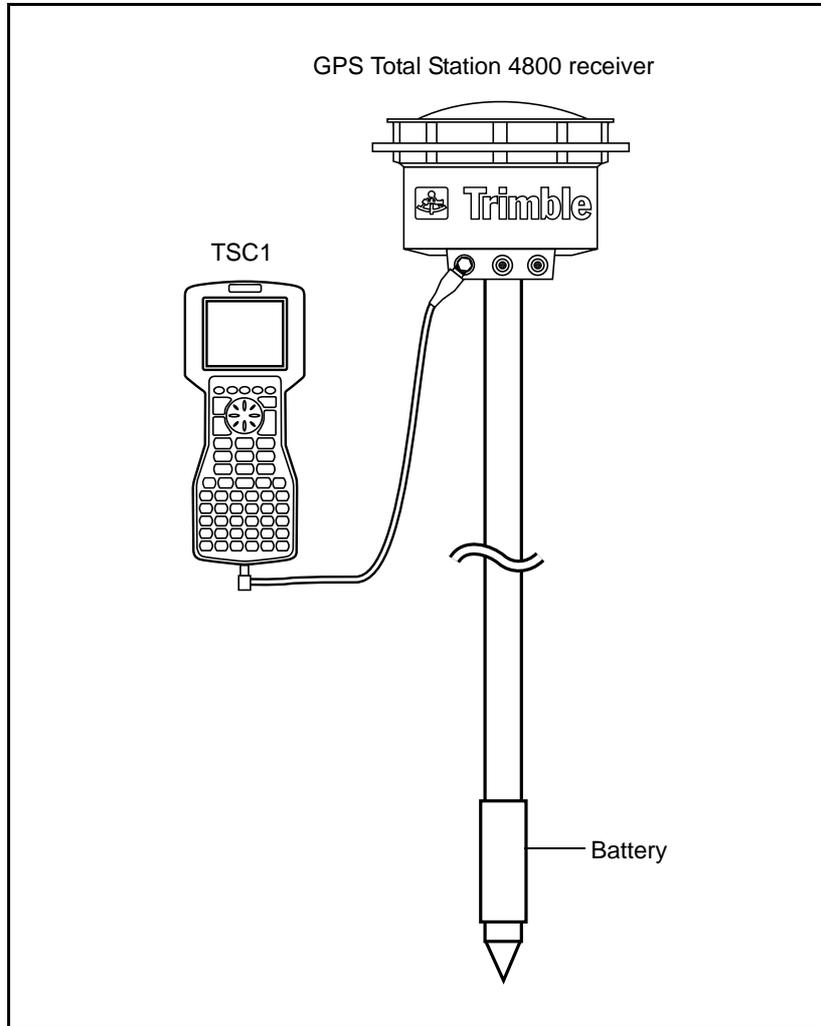
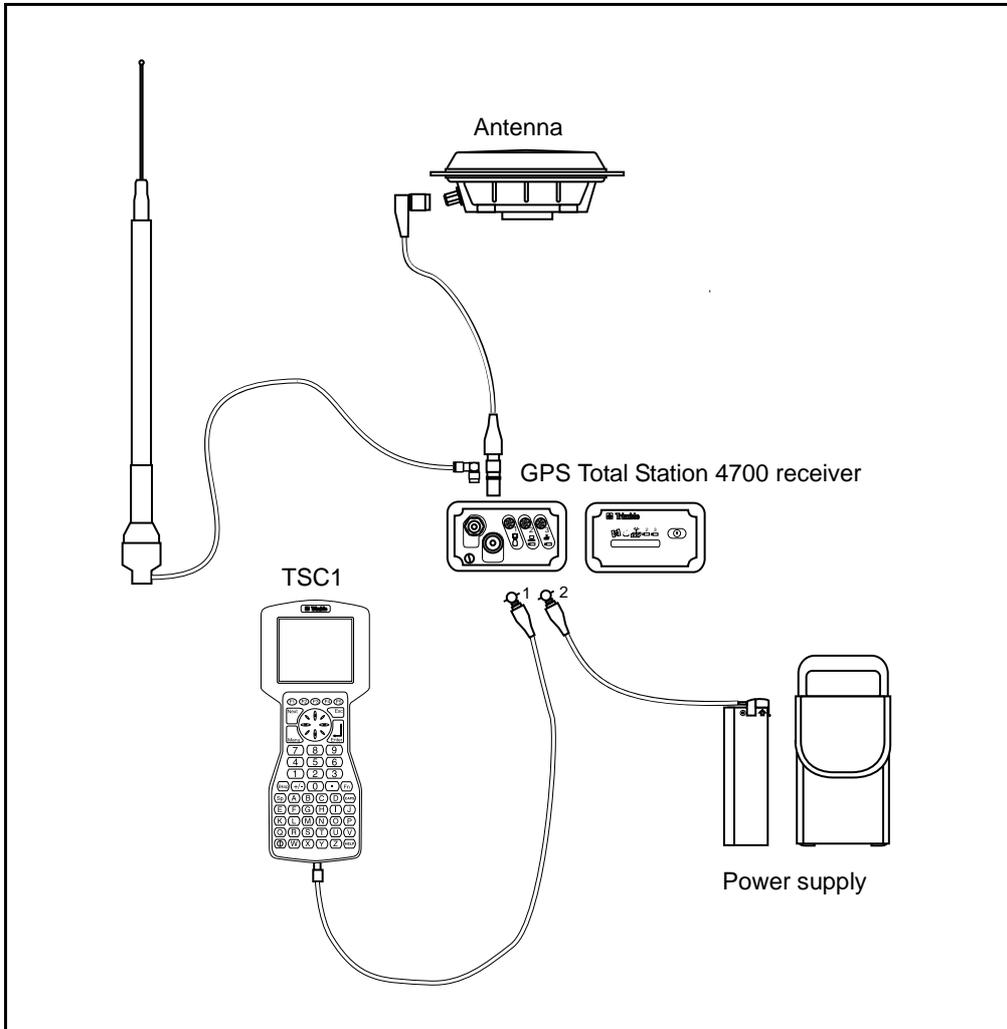

Figure 3.4 Rover receiver configuration using a GPS Total Station 4800 receiver – internal radio
Figure 3.5 Rover receiver configuration using a GPS Total Station 4700 receiver – internal radio
2. Connect the receiver hardware as shown in Figure 3.4 (or Figure 3.5, depending on the receiver type).
Figure 3.4 shows how to connect the rover receiver for an RTK survey using a GPS Total Station 4800 receiver with an internal radio.
Figure 3.5 shows how to connect the rover receiver for an RTK survey using a GPS Total Station 4700 receiver and an internal radio.